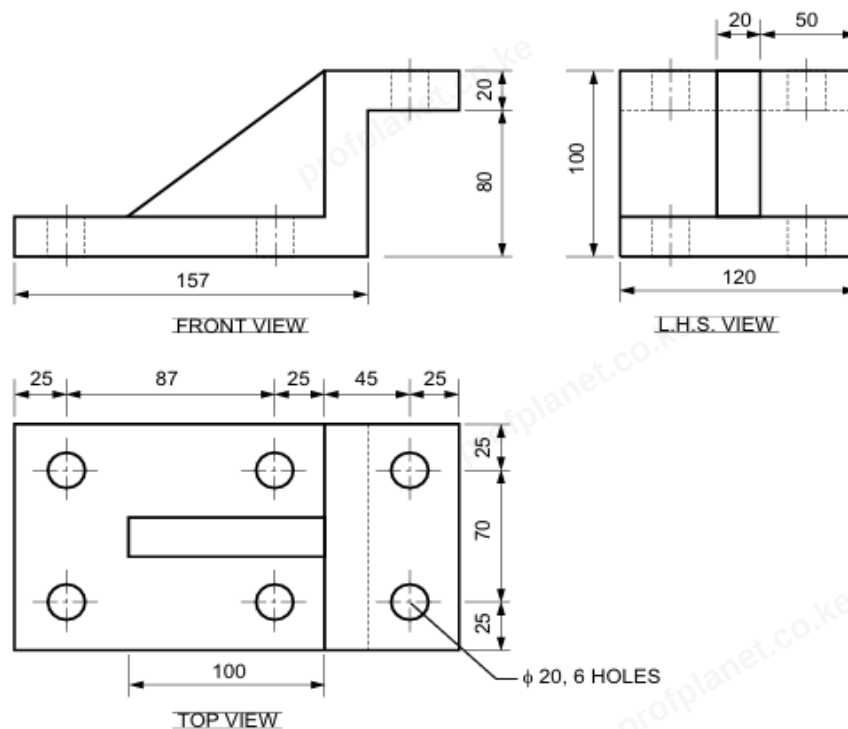

Figure 3
- b. Sketch an Isometric view from the orthographic projections provided in Figure 3 below